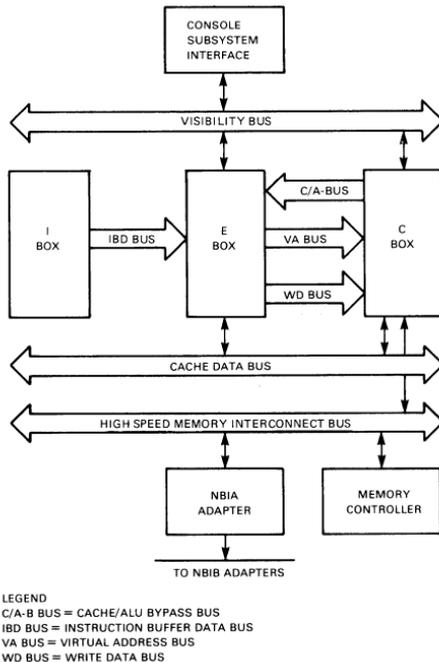

Figure 2-7 ▪ VAX 8800 and VAX 8700 Processor Block Diagram
Each processor consists of three functional units and related buses. The functional units are the instruction (I) box, the execution (E) box, and the cache (C) box. There are five buses in the processor — the cache/ALU bypass bus, the cache data bus, the instruction buffer data bus, the virtual address bus, and the write data bus. Figure 2-7 shows a block diagram of the VAX 8800 and VAX 8700 processor configuration.